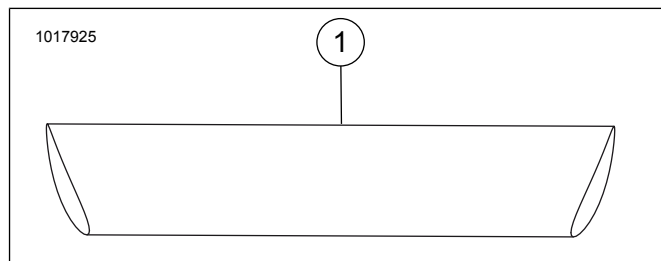
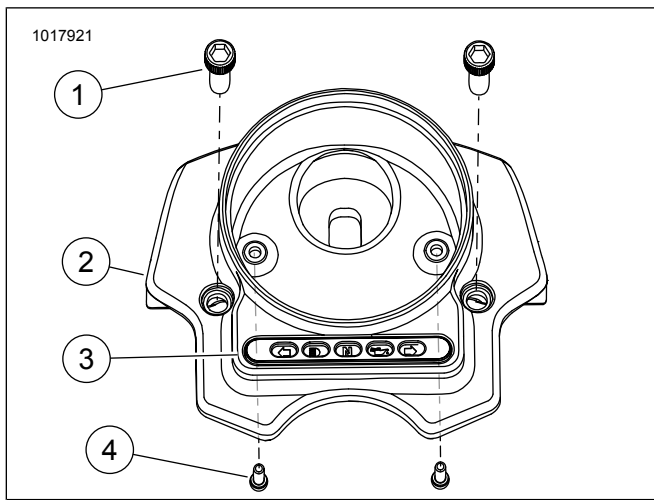
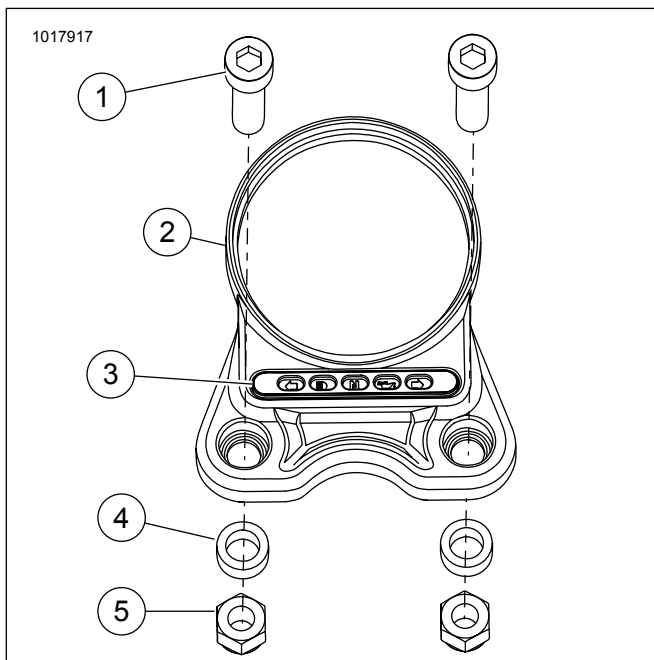

Figure 1. Service Parts: 2014-Later XL1200X
Figure 2. Service Parts: 2014-Later XL883N
Figure 3. Service Parts: 2016.5-Later XL1200CX
See Figure 1, Figure 2, Figure 3 and Table 1, Table 2, Table 3.
1. See Figure 1. Place handlebar clamp plug (1) in lower handlebar clamps.
4. See Figure 2. Transfer original indicator lamp assembly and **new** bezel.
- a. Remove adhesive backing from **new** bezel (3).
- b. Adhere bezel to speedometer bracket (2) from the inside.
5. Install housing with screws (1).
- c. Install speedometer into new housing (2) using original gaskets and screws. See the service manual.
3. See Figure 3. Transfer original indicator lamp assembly and **new** bezel.
4. Install speedometer into new housing (2) using original hardware, gaskets and backplate. See the service manual.
6. Install housing and speedometer assembly with screws (1), spacers (4) and locknuts (5).
- a. Place spacers (4) between upper fork bracket and speedometer bracket.